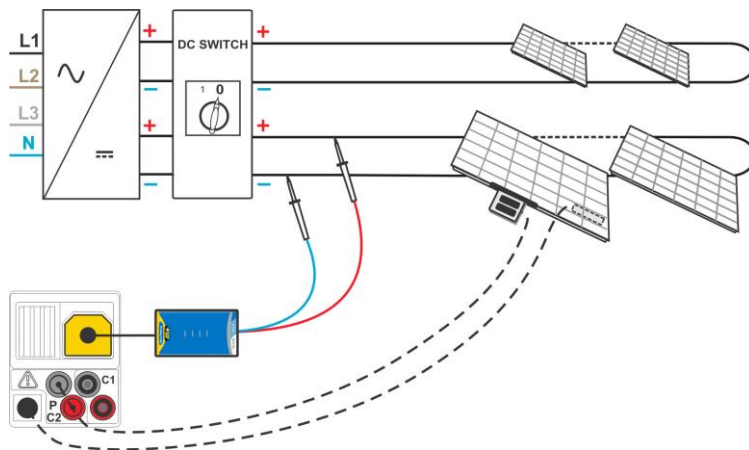

Figure 6.25: I / V curve test
- ❑ **Connect** the item to be tested (see figure 6.25).